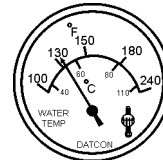

Figure 48. Coolant Temperature Gauge
9. The **coolant temperature gauge** (Figure 48) will indicate the coolant temperature. Under normal operating conditions the coolant temperature should be between 167°~203°F (75°~95°C) (**Green Zone**).